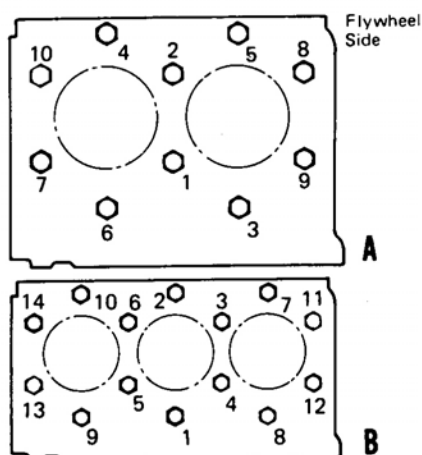
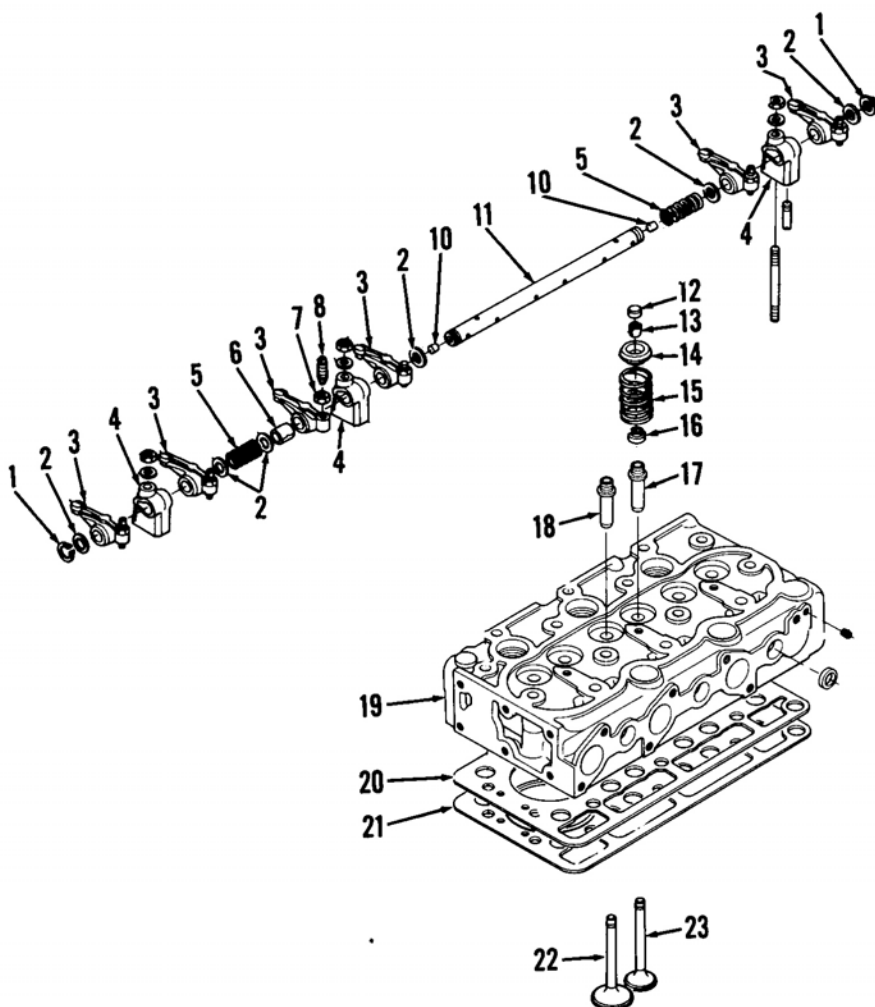

Fig. 14—Follow sequence in diagram A when tightening cylinder head fasteners on two-cylinder models or diagram B on three-cylinder models.
Fig. 15—Exploded view of cylinder head and valve train.
To check valve-to-piston clearance, install head and gasket with valves and springs installed but with injectors removed. Tighten head fasteners to 42-47 N·m (31-35 ft.-lbs.) torque following sequence shown in Fig. 14. Using a suitable measuring gage such as soft solder or Plastigage, insert gage between each valve and piston crown while rotating crankshaft through top dead center. Minimum allowable valve-to-piston clearance is 0.6 mm (0.024 inch). Clearance may be increased by installing a shim gasket (20—Fig. 15) between cylinder head (19) and head gasket (21). Shim gasket thickness is 0.2 mm (0.0079 inch).
Reverse removal procedure to reinstall cylinder head. Refer to Fig. 14 for cylinder head tightening sequence.
Rocker arm bushings (6—Fig. 15) are renewable. Bushing ID should be 10.997-11.038 mm (0.4330-0.4346 inch). Rocker shaft OD should be 10.973-10.984 mm (0.4320-0.4324 inch). Maximum allowable clearance between shaft and rocker arm bushing is 0.12 mm (0.0047 inch).